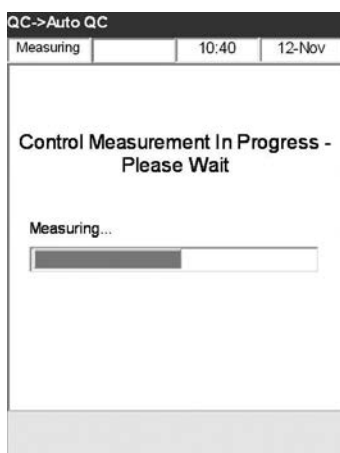

Fig. 4-17 Auto QC measurement
5. The QC sample is aspirated into the cassette and the measurement starts (Fig. 4-17).